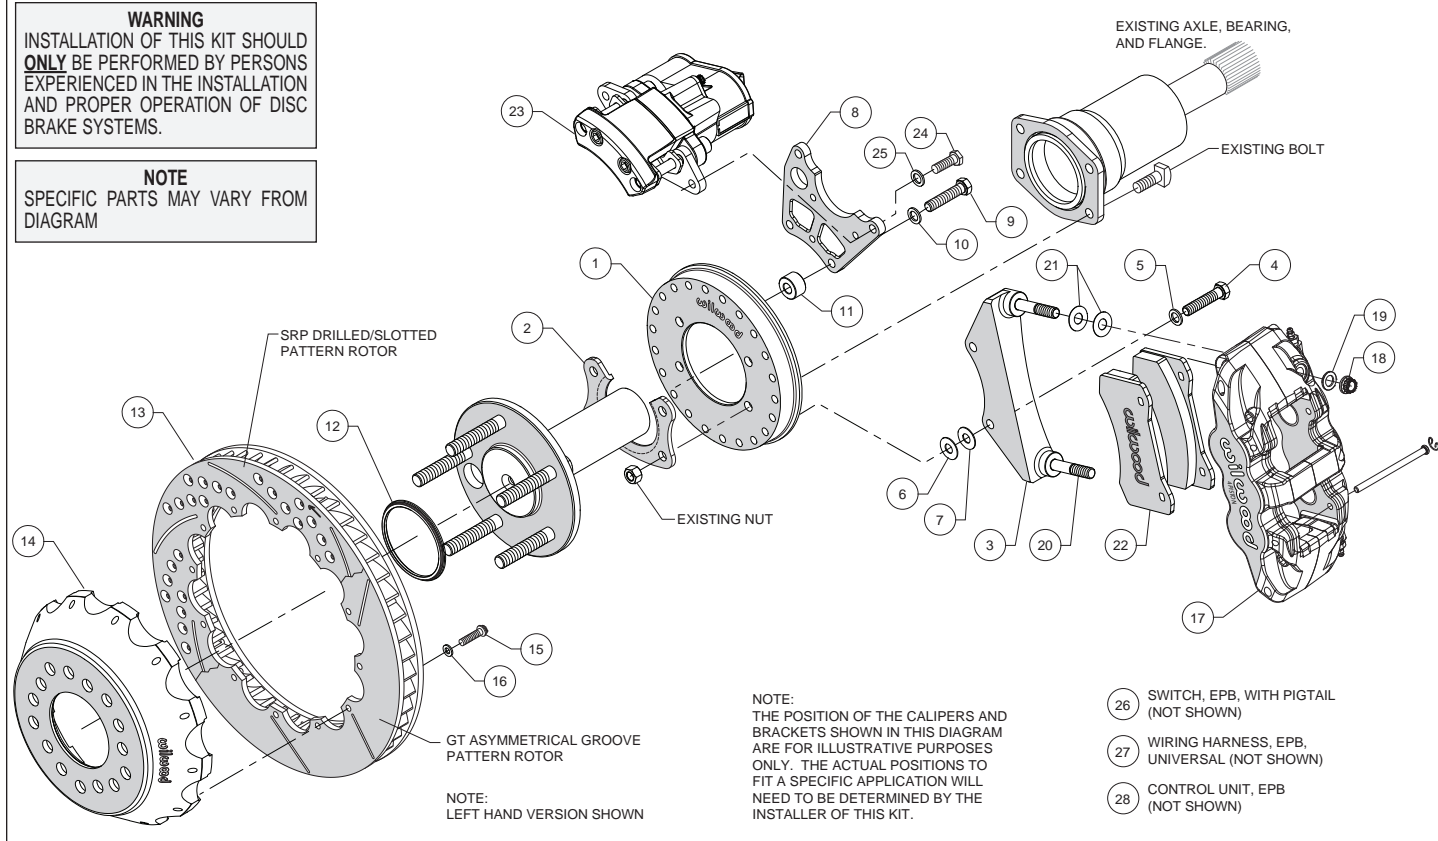
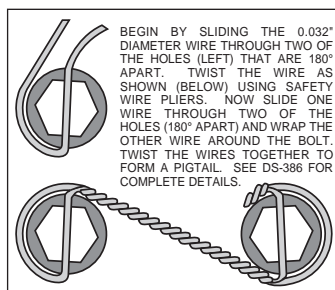

Figure 1. Typical Installation Configuration
Figure 5. Safety Wire Diagram
(numbers in parenthesis refer to the parts list, and Figure 1 on the preceding pages):
- Orient the backing plate (1) as shown in Figure 1 and Photo 1, and slide it onto the axle housing flange. Ensure the backing plate fits flush against the axle housing flange. Reinstall the axle into the axle housing.
- Install the bearing retainer (2) with the opening pointing upward and the lip facing inward (toward the bearing), as shown in Figures 1 and 4, and Photo 2. Secure retainer and backing plate to the axle housing flange using the Original Equipment Manufacturer (OEM) bolts and nuts, Figure 1 and Photo 3. Apply red *Loctite*® 271 to the OEM bolt threads and torque to OEM specifications.
- Start by determining the best location for the service caliper (17). This caliper is usually mounted in the 3:00 or 9:00 o'clock position, but may be rotated up or down approximately 45 degrees and still allow for proper bleeding, Photo 4. Orient the service caliper bracket (3) as shown in Figure 1 and Photo 5, and install to the backing plate (1) in the desired location using bolts (4) and washers (5). Temporarily tighten bolts. Next, mount the service caliper onto the bracket. Lubricate the caliper mounting studs (20) with lightweight oil. Mount the service caliper using lock nuts (18) and washers (19), Figure 1. Temporarily tighten the lock nuts. Check that the caliper (including inlet fitting and hose) has sufficient clearance to all surrounding components through the full suspension travel. Relocate the caliper/bracket on the backing plate as needed to ensure proper clearance is achieved.
- Determine the best location for the EPB caliper (23). **NOTE:** *The EPB caliper motor extends farther inboard than the service caliper and therefore needs additional consideration when determining a mounting location with sufficient clearance.* In the example application shown in Photo 6, the EPB caliper has sufficient inboard clearance to the leaf spring. However, if the EPB caliper were mounted closer to the 12:00 o'clock position, the inner body of the vehicle would hit the caliper during full compression of the suspension.
•Orient the EPB caliper bracket (8) as shown in Figure 1 and Photo 7, and install to the backing plate (1) in the desired location using bolts (9), washers (10), and spacers (11). Temporarily tighten bolts. **NOTE:** The EPB bracket is reversible. In one direction the bracket will position the EPB caliper closer to the service caliper, and vice versa if reversing the bracket. Next, mount the EPB caliper (23) to the bracket using bolts (24) and washers (25). Temporarily tighten bolts. **NOTE:** EPB calipers are Left and Right handed, however they can be used on either side of the vehicle to best suit your specific application. Check that the EPB caliper (including wiring harness connector) has sufficient clearance to all surrounding components through the full suspension travel. Relocate the EPB caliper/bracket on the backing plate as needed to ensure proper clearance is achieved.
•Once the caliper positions have been determined, remove both the service (17) and EPB (23) calipers, leaving both brackets in place on the backing plate. For the EPB bracket, remove the bolts one at a time, apply red Loctite® 271 to the threads, and torque to 35 ft-lb. The service caliper bracket will be final installed after shimming is determined.
•Orient the rotor (13) and the hat (14) as shown in Figure 1 and Photo 8. Attach rotor to hat using bolts (15) and washers (16). Using an alternating sequence, apply red Loctite® 271 to the threads, and torque to 155 in-lbs. For an added measure of security, the bolts may be safety wired using standard 0.032 inch diameter stainless steel safety wire as shown in Figure 5. Please refer to Wilwood's data sheet DS-386 (available at [www.wilwood.com/Pdf/DataSheets/ds386.pdf](http://www.wilwood.com/Pdf/DataSheets/ds386.pdf)) for complete safety wire installation instructions.
•Initially place two .030" thick shims (21) on each stud of the service caliper bracket (3), as shown in Figure 1 and Photo 10. Mount the caliper onto the bracket using lock nuts (18) and washers (19), Figure 1. Temporarily tighten the lock nuts and view the rotor through the top opening of the caliper. The rotor should be centered in the caliper, Photo 11. If not, adjust by adding or subtracting shims (6 and/or 7) between the service caliper bracket (3) and the backing plate (1). Always use the same amount of shims on each of the two mounting bolts. Once the caliper alignment is correct, remove the bracket mounting bolts (4) one at a time, apply red Loctite® 271 to the threads, and torque bolts to 35 ft-lb.
- Remove the service caliper (17), then remove the two pad retaining pins from the caliper by carefully popping out the pin retaining clips and sliding out the pins. Insert the brake pads (22) into the caliper from the bottom, Figure 1 and Photo 12. With the friction material facing the rotor, secure the brake pads in place with the pad retaining pins and clips, Photo 13. Reinstall the caliper onto the mounting bracket and temporarily tighten the lock nuts. Check that the top of the brake pad is flush with the outside diameter of the rotor, Photo 14. If not, adjust by adding or subtracting shims (21) between the caliper and the bracket. After the caliper pad height is set, torque the caliper lock nuts (18) to 47 ft-lb.
- Mount the EPB caliper (23) onto the caliper mounting bracket (8) using bolts (24) and washers (25), Figure 1. Apply red *Loctite*® 271 to bolt threads, and torque to 30 ft-lb.
• **NOTE:** The service caliper (17) in this brake kit utilizes a 1/8-27 NPT pipe thread inlet. OEM rubber brake hoses generally cannot be adapted to Wilwood calipers. The preferred method is to use steel adapter fittings at the caliper, either straight, 45 or 90 degree and enough steel braided line to allow for full suspension travel. **Carefully route hoses to prevent contact with moving suspension, brake or wheel components.** **NOTE:** Wilwood hose kits are designed for use in many different vehicle applications and it is the installer's responsibility to properly route and ensure adequate clearance and retention for brake hose components. Wilwood offers universal brake flex line hose kits, domestic (3/8-24 IF) chassis fittings, order: